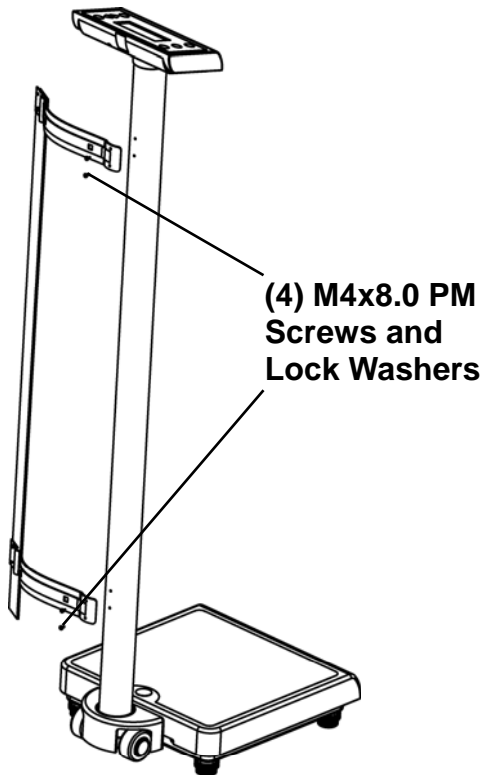

Figure No. 24
- Align the upper mounting bracket with the holes near the display in the back of the column and install two (2) M4x8.0 PM screws to secure the bracket to the column.
- Align the holes in the lower bracket with the lower holes in the column and install two (2) M4x8.0 PM screws with lock washers to secure it to the column. See Figure No. 24.